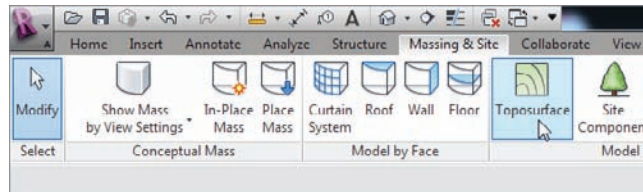

FIGURE 18.1 Click the Toposurface button on the Massing & Site tab of the Ribbon.
4. On the Massing & Site tab, click the Toposurface button, as shown in Figure 18.1.